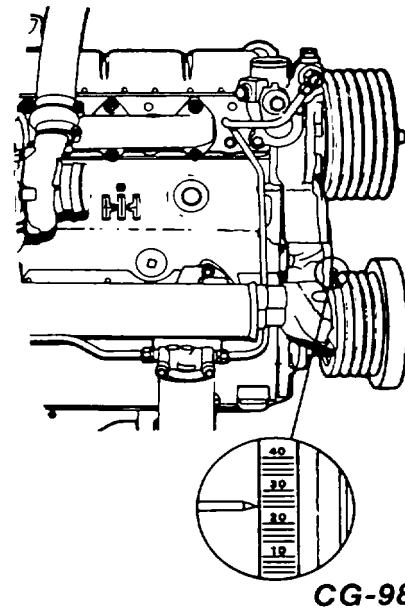

Figure 27d. - Engine to Injection Pump Timing on Pulley
- f. Observe engine to injection pump timing on crankshaft pulley (Fig. 27d). Refer to specifications (introduction) for correct alignment (or see Chart 1, Section 11, Page 16).